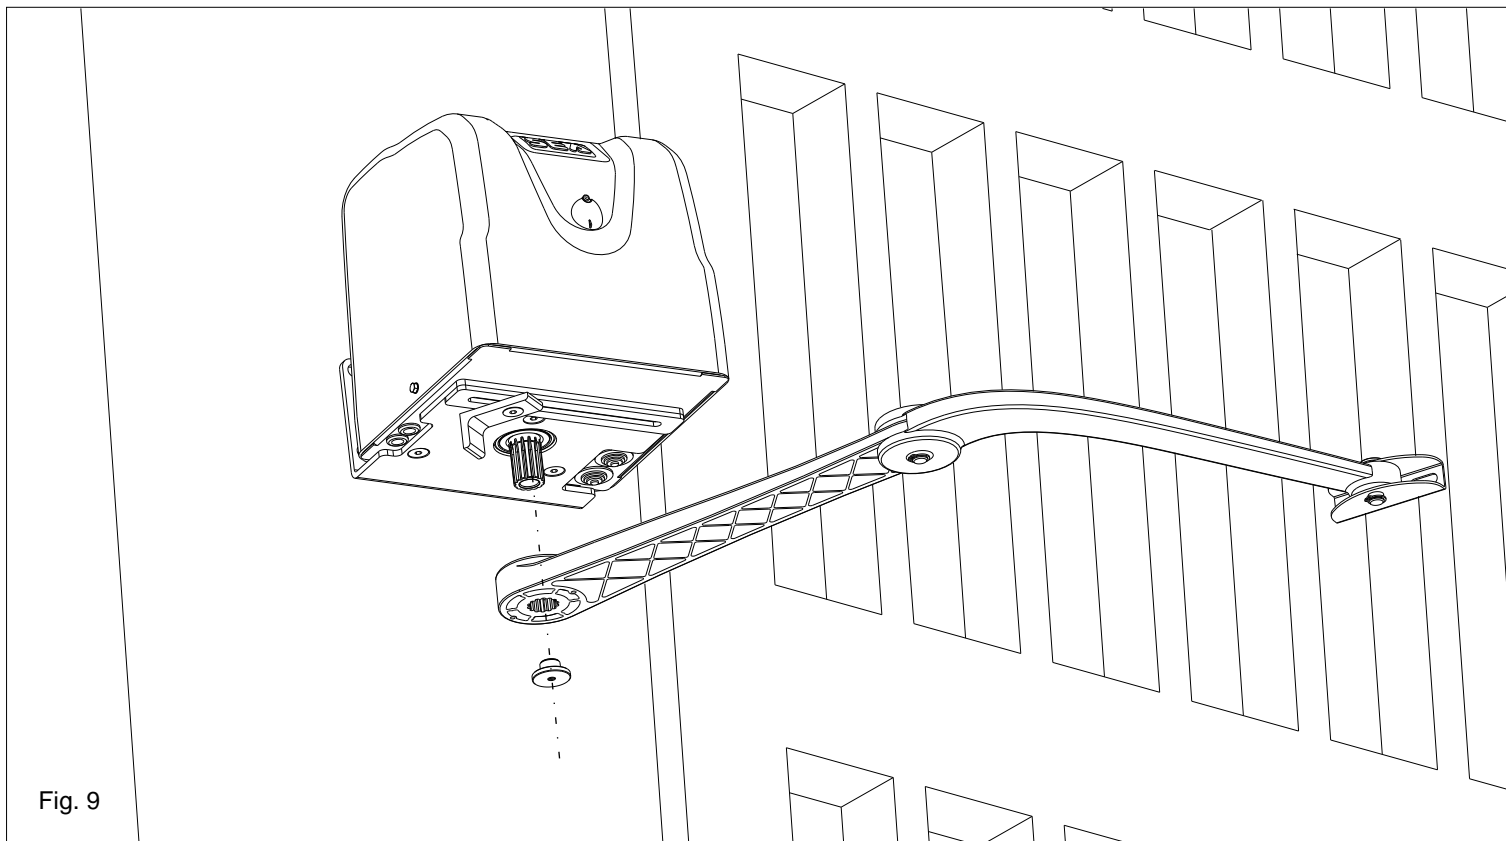

Fig. 9
- Fit the articulated arm into the motor shaft and lock it with the special screws (Fig. 9).